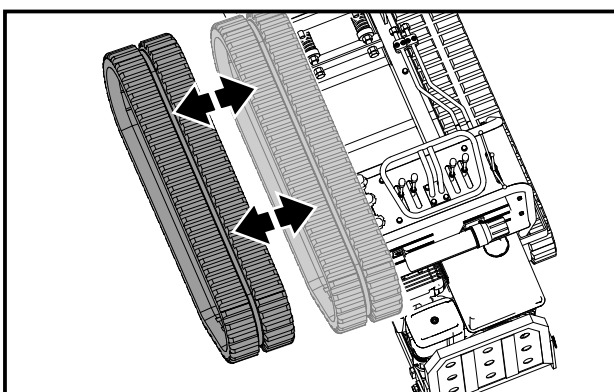

Figure 22
4. Pull out the hole track. See figure 22.